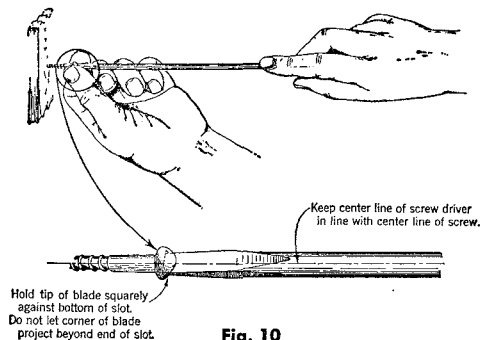

Fig. 10
6.02 After lead hole has been drilled insert the screw and start it by holding it and the screwdriver in position as shown in Fig. 10.